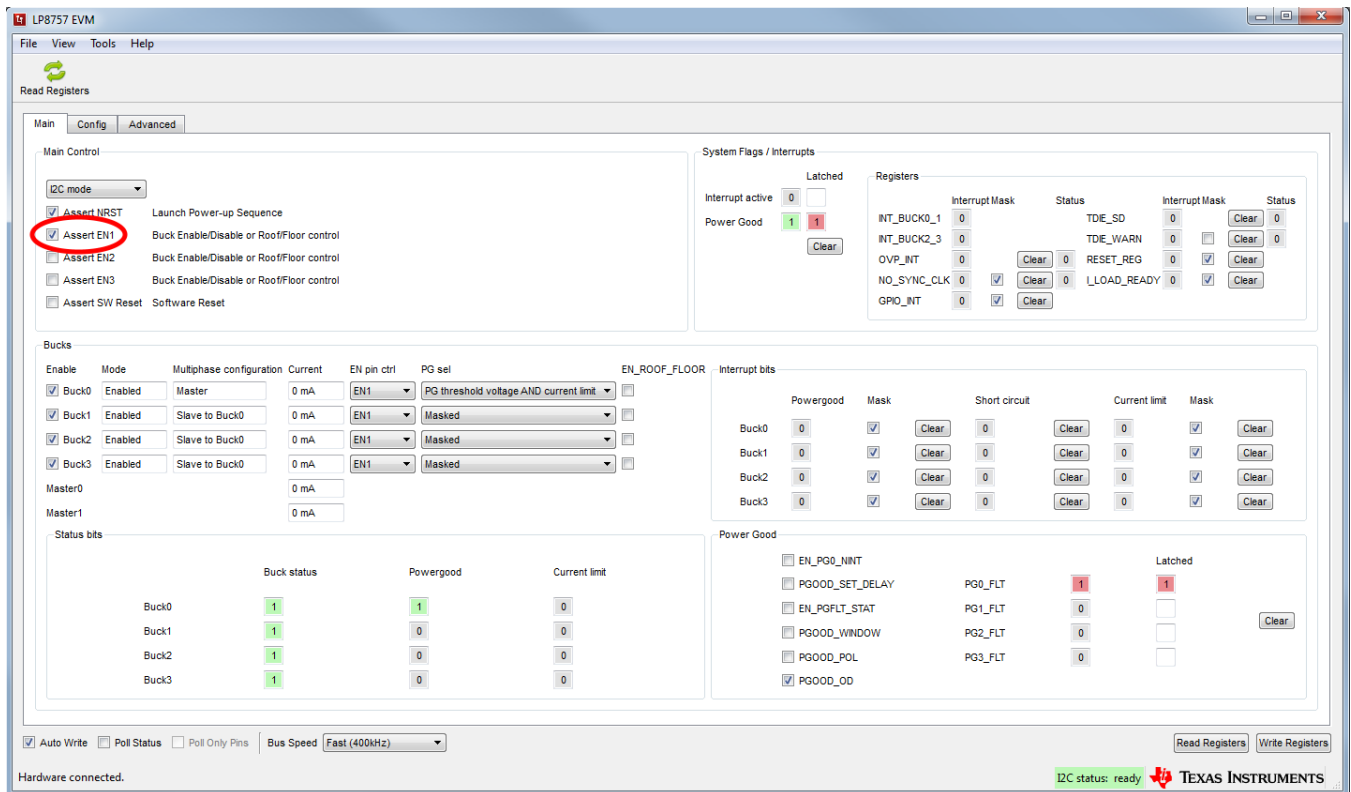

Figure 10. Assert EN1
4. Click on Assert EN1 (see Figure 10).
The Main tab (see for example Figure 10) has the elemental controls for the EVM and provides a view to the chip status. Starting from top, the main controls are: